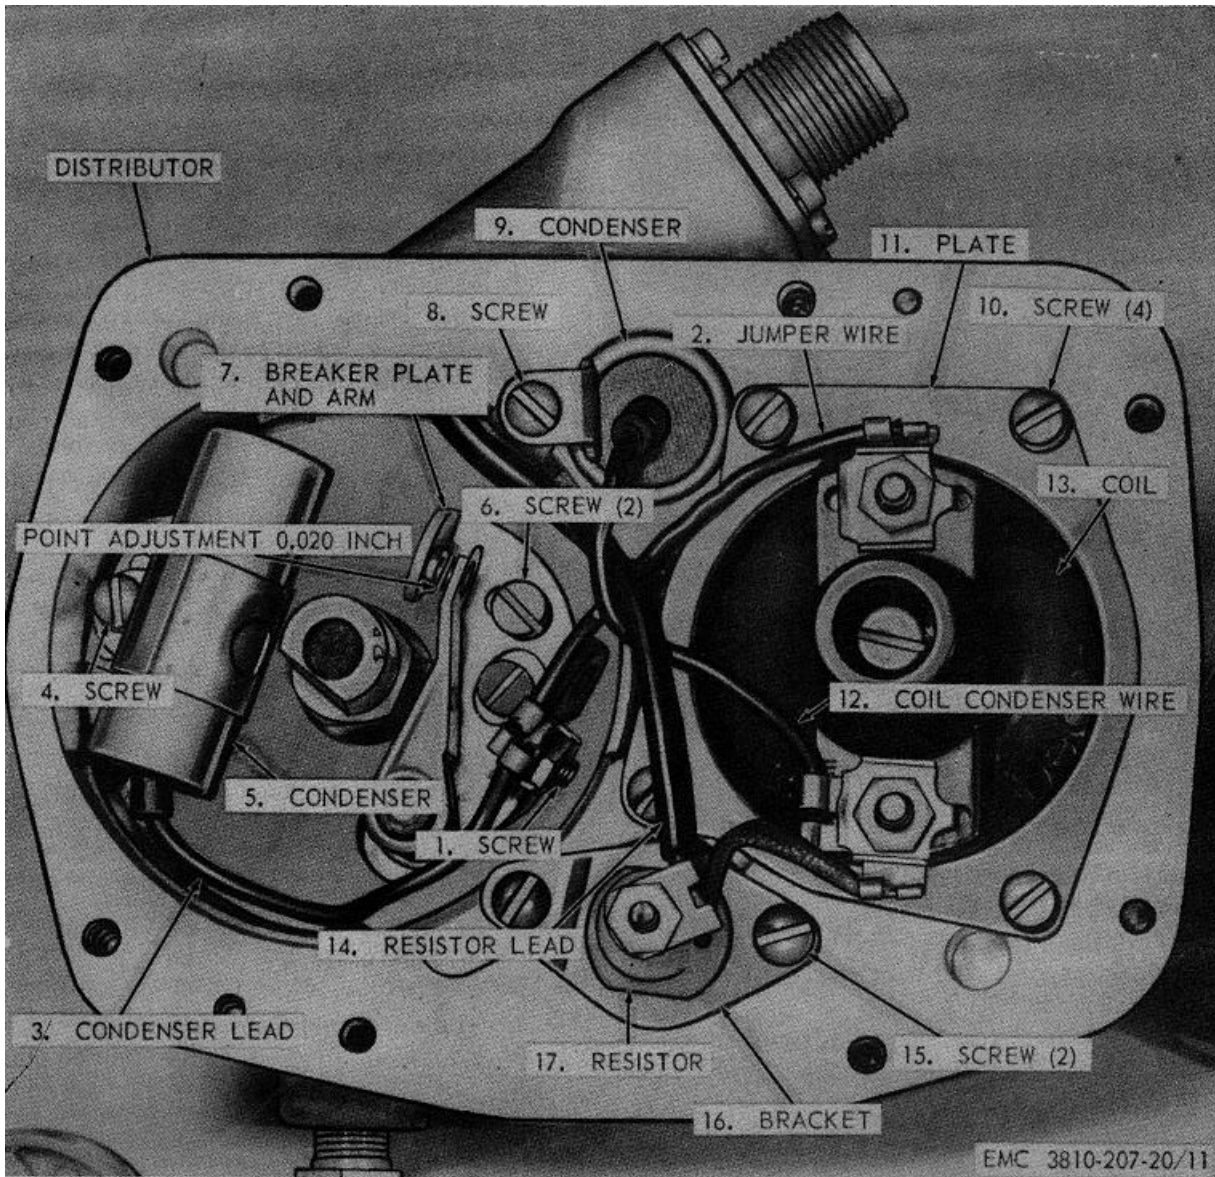

Figure 11. Distributor, coil, points, condenser, and resistor, removal, adjustment, and installation.
- (1) Remove the distributor (par. 74).
- (2) Disassemble the distributor as illustrated on figure 11.
- (1) Reassemble the distributor in the reverse order illustrated on figure 11.
- (2) Adjust the points as instructed on figure 11.
- (3) Lubricate the distributor (LO 5-3810-207-20).
- (4) Install the distributor (par. 74).